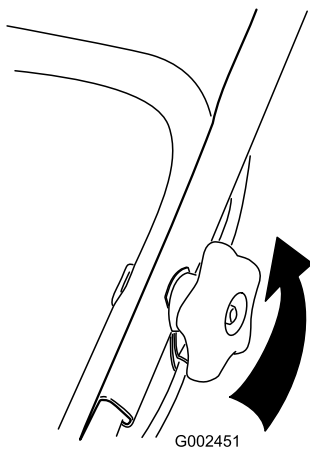

Figure 38
1. Loosen the handle knobs until you can move the upper handle freely (Figure 38).